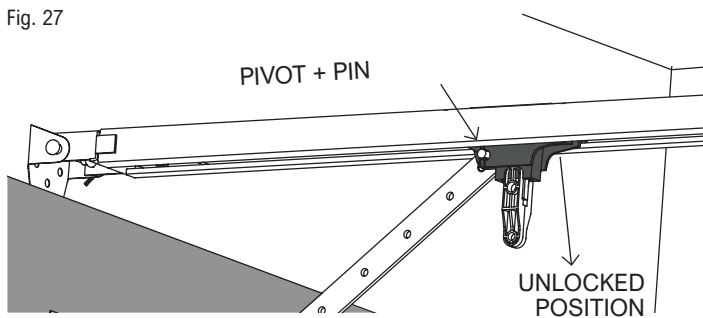

Fig. 27
- 1) Use the pivot and the pin on the trolley to connect the assembled tow bracket on the trolley (Fig. 27).